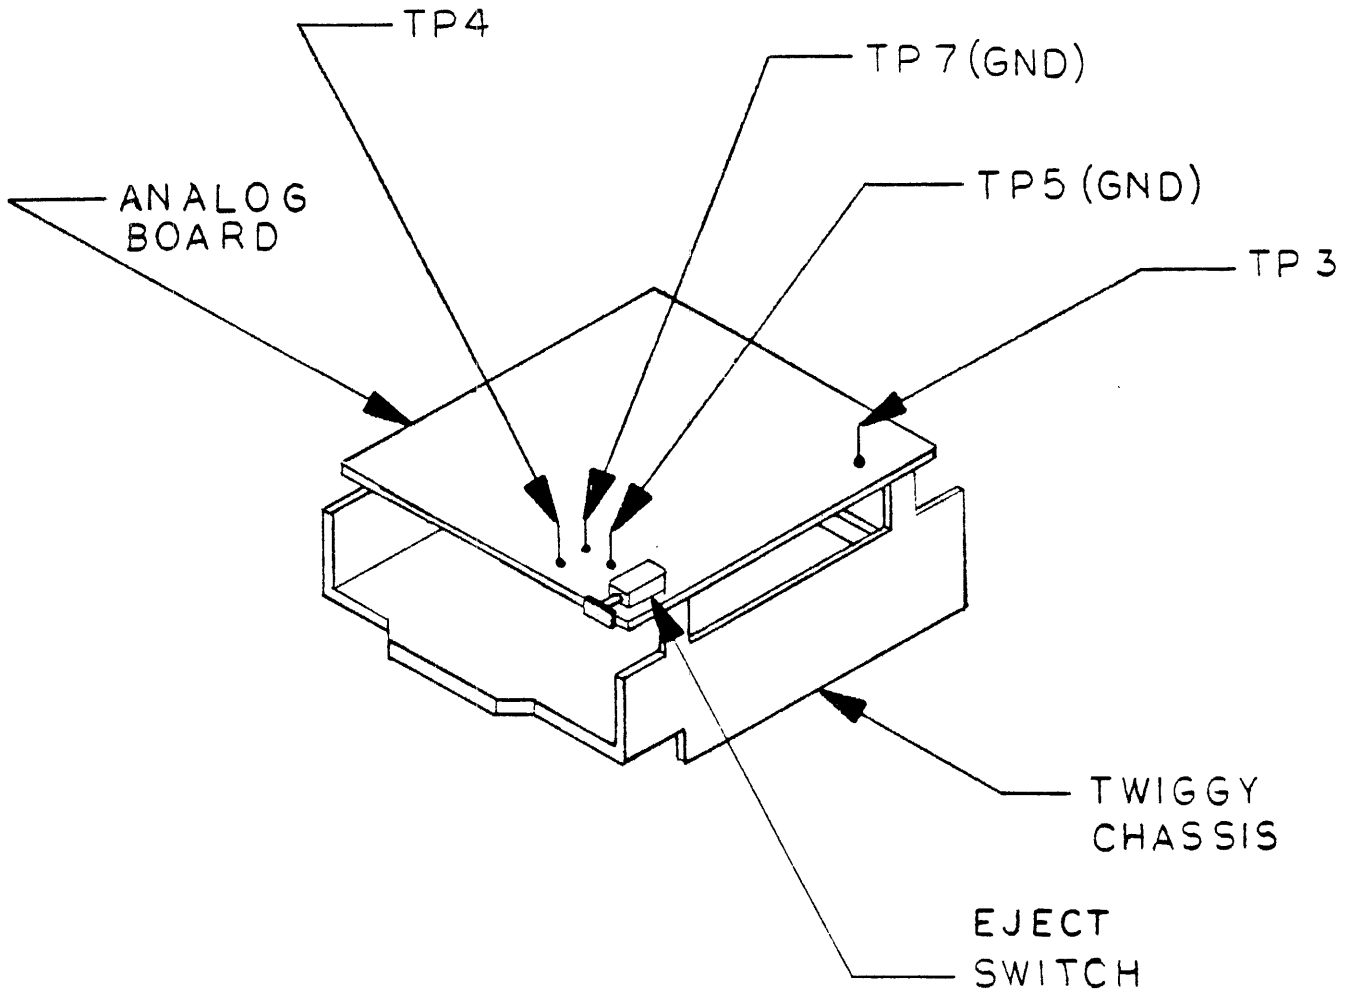

FIGURE 1. THE ANALOG BOARD.
7.2.4 After the message "PRESS FRONT BUTTON" appears on the monitor screen, press the eject switch on the analog board (See Fig. 1.) to unclamp and eject the diskette. A PASS or FAIL message will appear on the monitor.
7.3.1 Connect the oscilloscope in the following way (See Fig. 1):